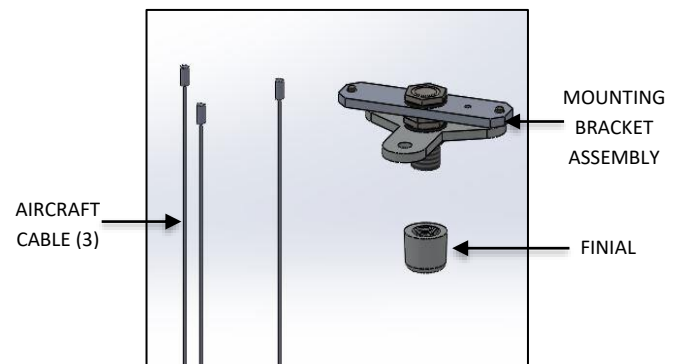

FIG. 6 MOUNTING KIT CONTENTS
- b. MOUNTING KIT CONTENTS (as shown in FIG. 6)
- i. THREE (3) AIRCRAFT CABLES